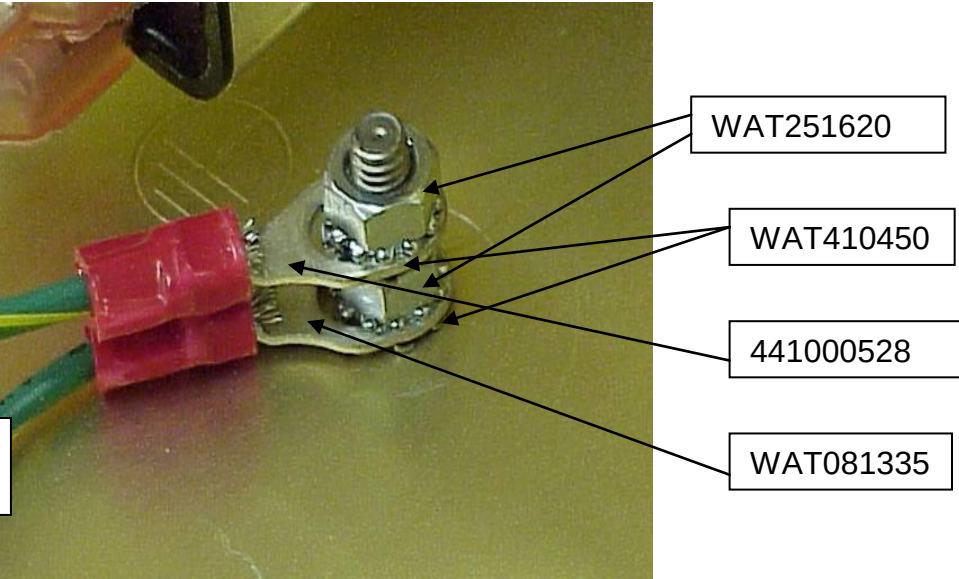

Figure 11b
5.2 Place washer onto the ground stud. Add the Gnd Wire Assy lug and secure with lock nut. (Figure 11b)
5.3 Place washer on top of the lock nut. Add the ground wire lug from the AC Cable Assy onto the stud and secure with lock nut. (Figure 11b)